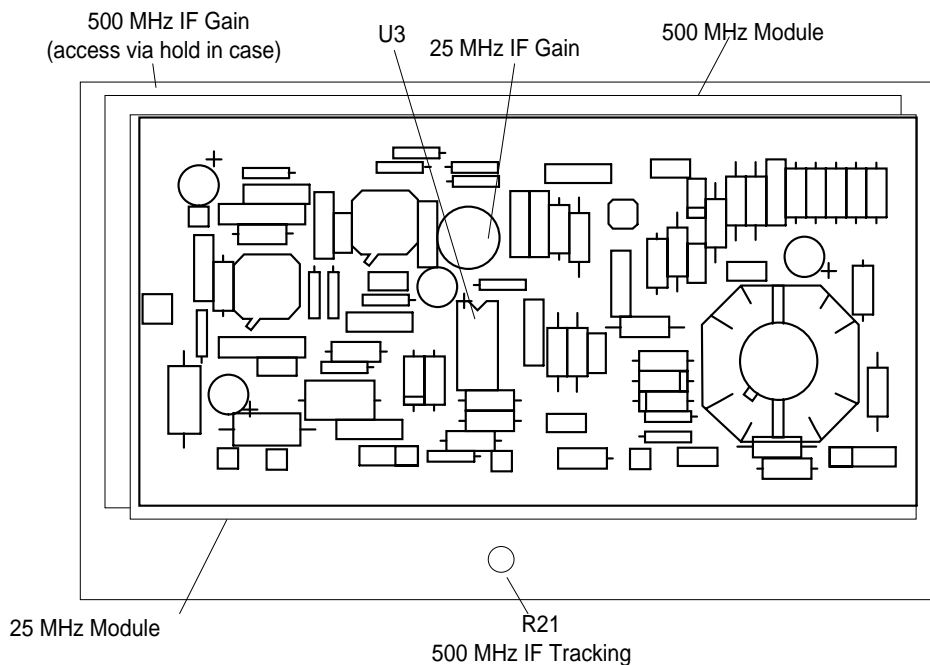
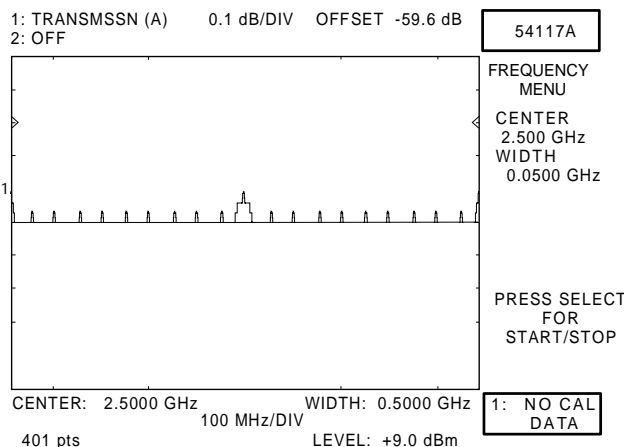
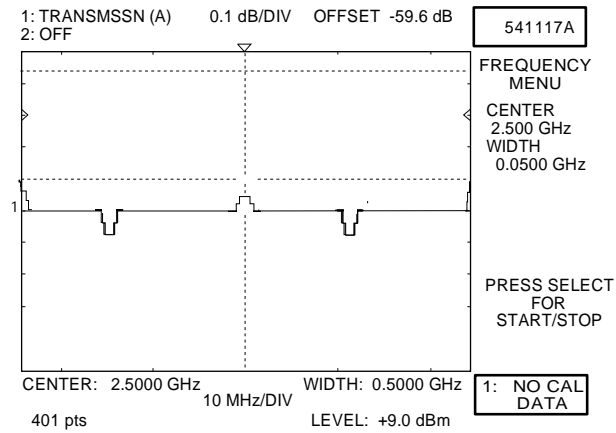
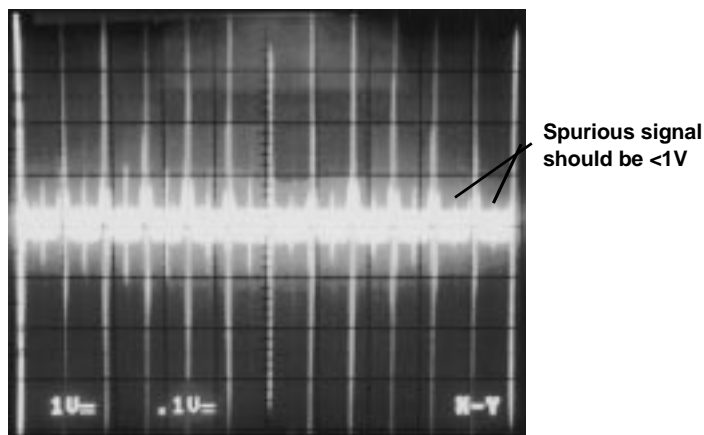

Figure 6-11. 25 MHz and 500 MHz Modules Adjustment Locations (54137A thru 54177A)
Figure 6-12. 541XXA Display of 500 MHz Markers
Figure 6-13. 500 MHz Markers in Saturation
Figure 6-17. Oscilloscope Spurious Signal Display
Step 19. Remove the cover from the 25 MHz Module and connect a X10 probe between the oscilloscope CH2 Input and U3-pin 3 (Figure 6-11).
Figure 6-11 shows the 25 MHz and 500 MHz modules ganged together, as they are for the 54137A and 54147A. Although the two units are separated on the other models, the adjustments are in the same relative locations.
Step 21. Set the 500 MHz I/F tracking potentiometer R21 (Figure 6-11) fully counter-clockwise.
Step 24. Adjust the 500 MHz IF gain and the 25 MHz IF gain potentiometers (Figure 6-11) to obtain all marker with no spurious, as observed on the 541XXA display (Figure 6-12).
Step 30. On the 500 MHz module, increase the 500 MHz IF Gain potentiometer (Figure 6-11) until spurious 500 MHz markers appear, or until saturation occurs (Figure 6-13). Reduce the gain until the spurious markers disappear.
- Step 37.** Adjust the 500 MHz Gain potentiometer (Figure 6-11) for a marker width of 20 ±3 MHz.
- Step 40.** For all models that have R21 installed (Figure 6-11), adjust R21 to:
- Increase the width of the 500 MHz marker until saturation occurs (Figure 6-13).
- Step 44.** Connect the oscilloscope's CH 2 (Y-input) to U3, pin 2 (Figure 6-11), using a X10 probe.
Step 49. Adjust the 25 MHz IF Gain potentiometer (Figure 6-11) to provide a spurious signal on oscilloscope (Figure 6-17). Ensure that the maximum value does not exceed that shown in the table at left for the model under test.
If the spurious signal is greater than the value listed in the table top left, adjust the 25MHz gain pot (figure 6-11) to reduce it to the level in the table.